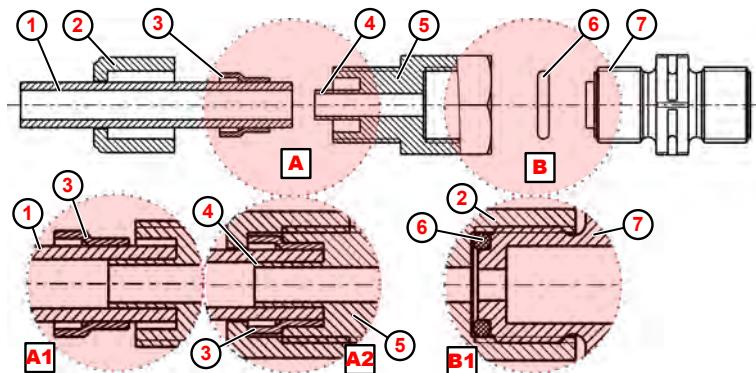

Fig. 7: Pipe and hose connection with integrated support sleeve
1. Place the o-ring (Fig. 7 , ⑥) in the groove of the suction or pressure valve ⑦ .
2. Tighten the screw connection ⑤ (for details, see ⑧).
3. Cut off the hose with a straight cut ① .
4. Slide the union nut ② over the hose ① .
5. Slide the clamping ring ③ over the hose ① .
6. Slide the hose ① over the support sleeve ④ until it engages (for details, see ⑨).
7. Tighten the screw connection ⑤ (for details, see ⑩).